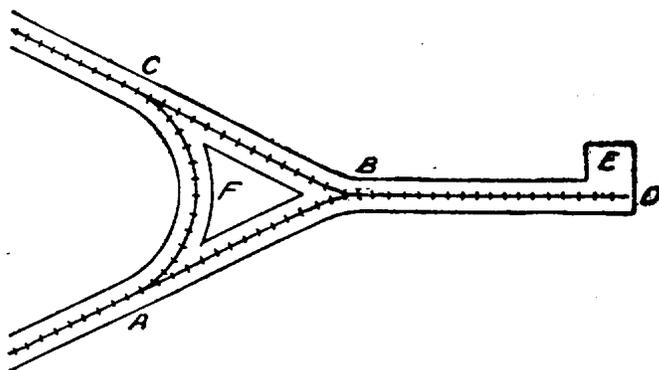

FIG. 13.—SWITCHBACK.
18. The angles made in the trench lines of siegeworks are so sharp that curves with very short radii will be necessary. Sharp curves, even with low speed, mean derailments and the consequent trouble; and the use of "switchbacks" is recommended when the question of speed is a minor one, as it usually is on a siege line. ABC (fig. 13) is the change of direction of an approach; the angle is not exaggerated. A very sharp curve would be necessary to get from A to C by an auxiliary trench, F. A much better method is to extend the trench from B to D and lay the track to D. At B a switch is put in and the line continued to C. BD must be longer than the probable train length and level if possible. The train is moved onto BD, and the animals are put on the other end of the train, or the motor is run backward and the train proceeds, via BC, to the next switchback, when the operation is repeated. E makes an excellent place for storage of tools or materials, or for a dressing station.